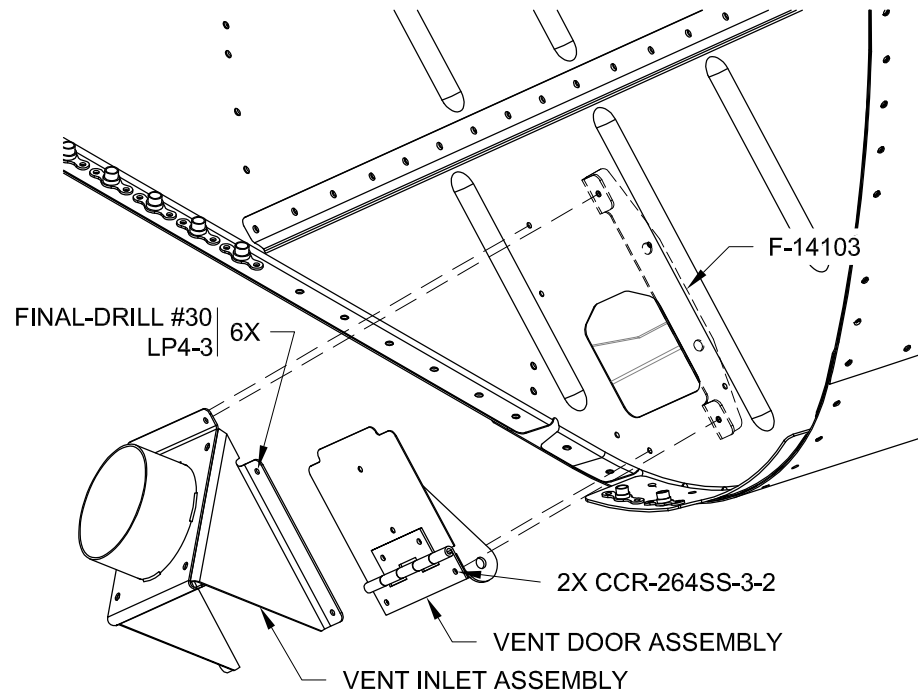

FIGURE 1: INSTALLING THE VENT DOOR & INLET ASSEMBLIES (LEFT SIDE SHOWN)
Step 1: Rivet the Vent Door Assemblies to the lower firewall and F-14103 as shown in Figures 1 and 2. Note the orientation of the F-14103 in Figure 2.
Step 4: Rivet the Vent Inlet Assemblies to the firewall and F-14103 as shown in Figure 1. Install the Vent Inlet Assembly with the FF-00084 on the right side.